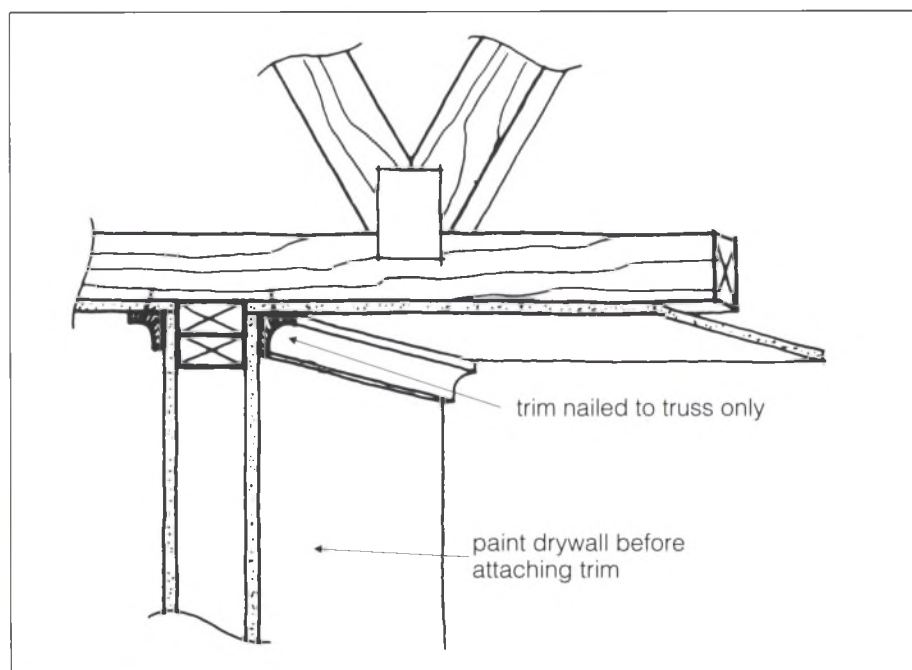

Fig. 12. Slip joint
- If truss uplift occurs, fasteners in the ceiling drywall near the corner joint can be driven through and the joint retaped to create a floating corner. Alternatively, mouldings can be attached to the ceiling (not to the walls) to cover the crack at the joint and to create a slip joint (*fig. 12*). Do not attempt to remedy truss uplift by driving wedges between the trusses and the partition walls. This can cause serious structural problems when the truss settles later.